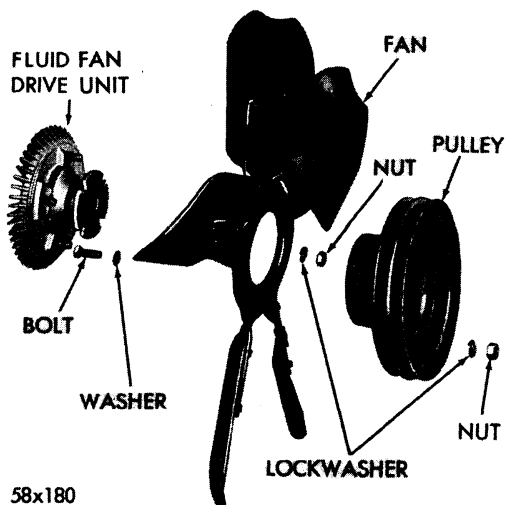

Fig. 1—Silent Flite Fluid 5 Blade Fan Drive (Used On Air Conditioning Only) Exploded View
(FIGS. 1 AND 2)
Drain cooling system and remove upper half of fan shroud (Air Conditioning Models only). Loosen the power steering pump or idler pulley, generator, and remove all belts. Remove fan, spacer and pulley. On Air Conditioning Models, remove the pulley from water pump fan hub, loosen all nuts from fan to remove the fluid fan drive, as shown in Figure 1. Remove bolts holding water pump body to housing and remove water pump.
c. Assembly (Fig. 1)